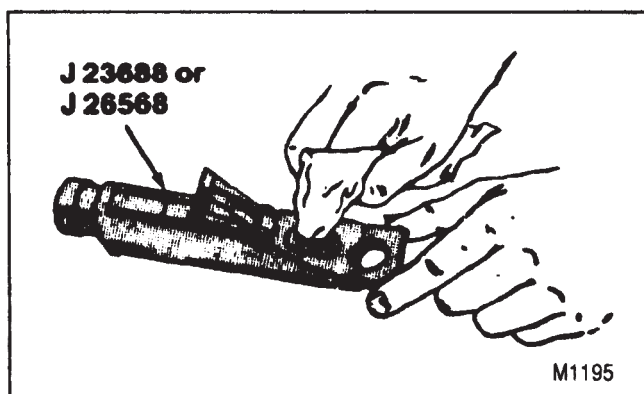

Figure 2—Cleaning the Coolant Tester
- Before each use, swing back the plastic cover at the slanted end of J 26568 or J 23688, exposing the measuring window and the bottom of the plastic cover (figure 2).